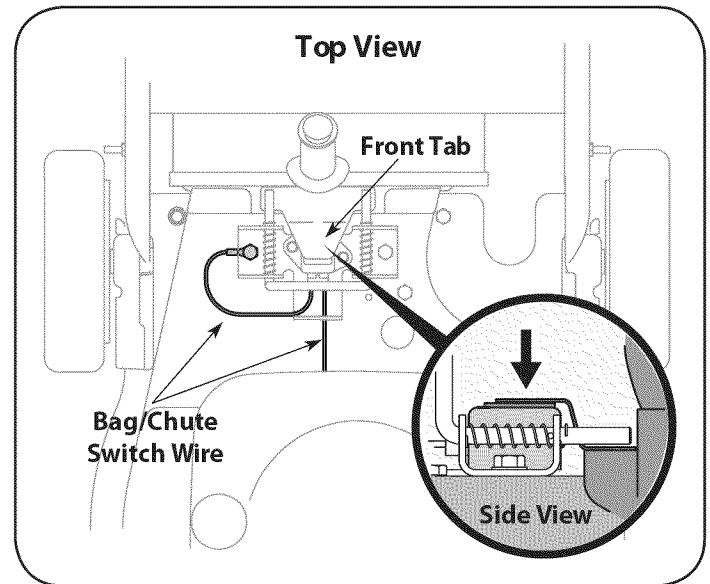

Figure 13
**IMPORTANT:** The bag/chute switch button must be fully depressed by the tip of front tab on bag handle or blower chute for engine to start. See Figure 13.